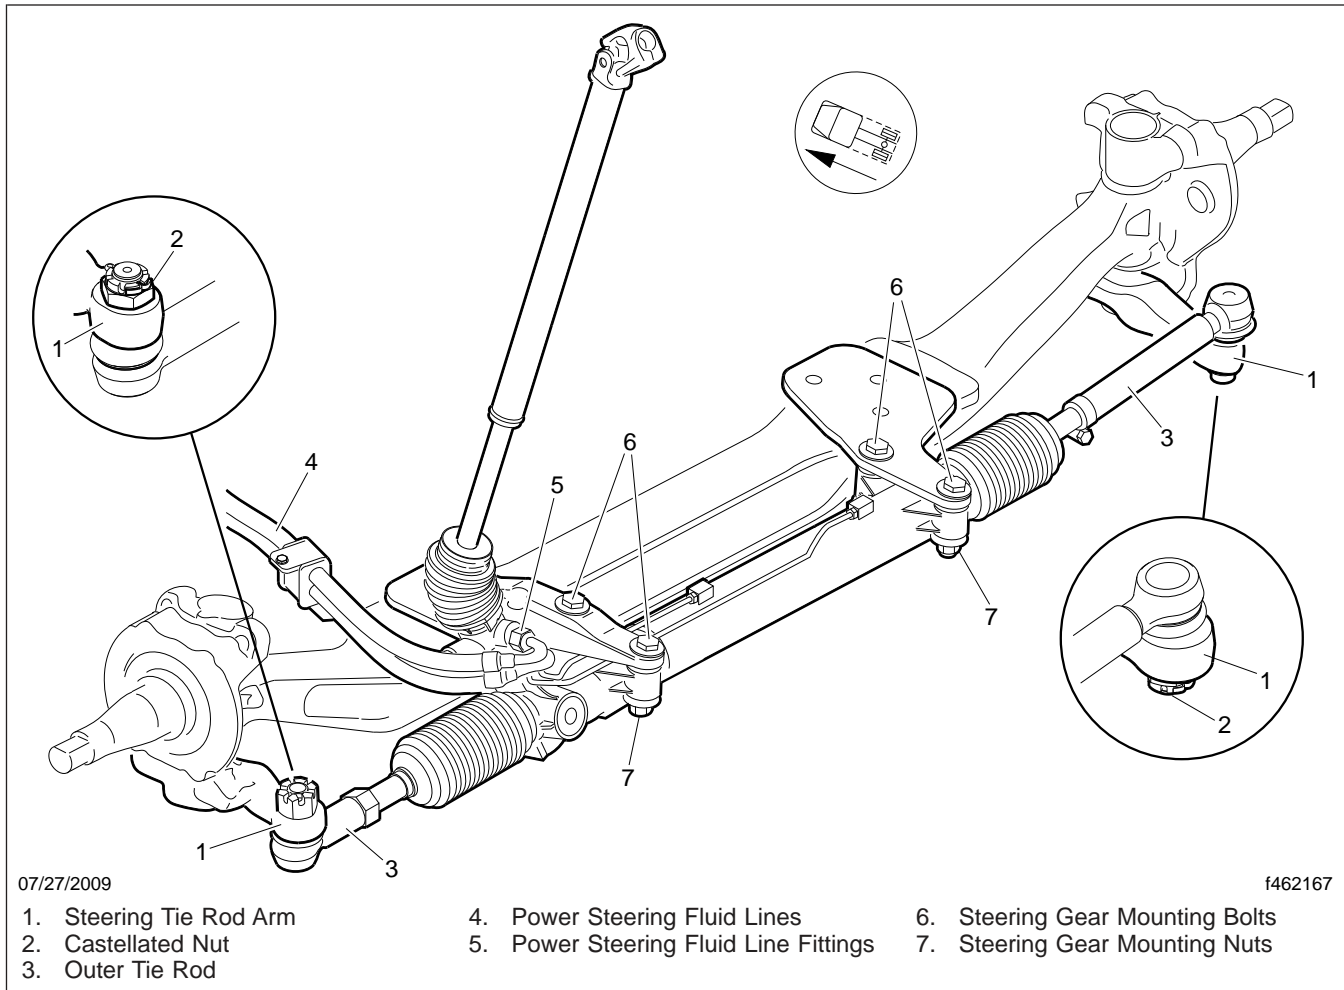
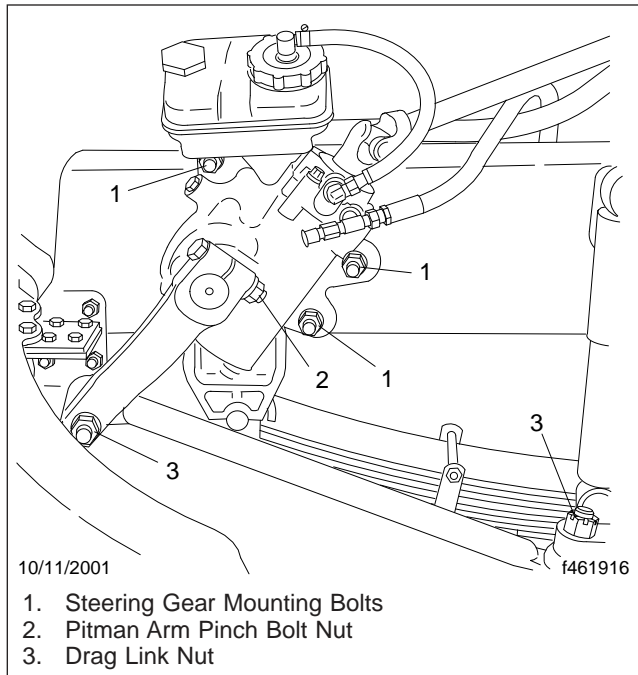

Fig. 21.17, Rack and Pinion Steering Gear Assembly
Fig. 21.18, Integral Steering Gear Fasteners
- 6.1 Inspect tie rods, steering arms, and the drag link for signs of looseness (i.e., shiny spots or rust tracks). See Fig. 21.17 for a rack and pinion steering gear; see Fig. 21.18 for an integral steering gear.